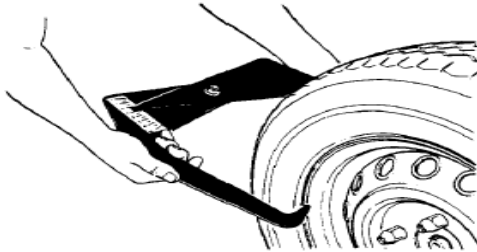
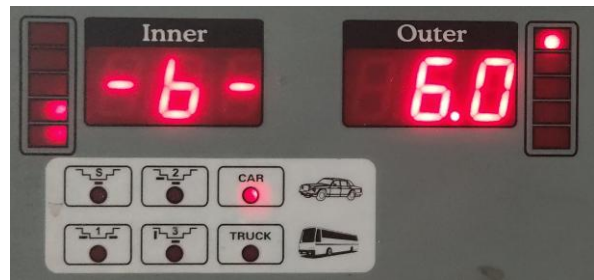

FIG.8
FIG.9
- width (b) value: read it directly from the rim or measure it by equipped caliper as in FIG 8, press  input the value manually through   FIG .9